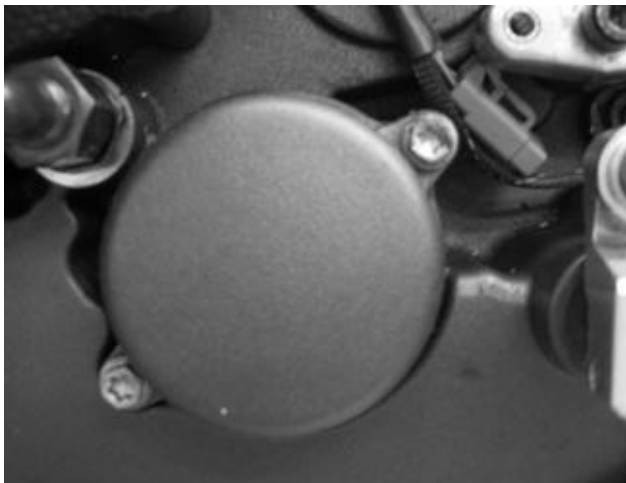

Figure 31. Oil Filter Cover.
A. Remove the two screws to detach the oil filter cover. See figure 31.